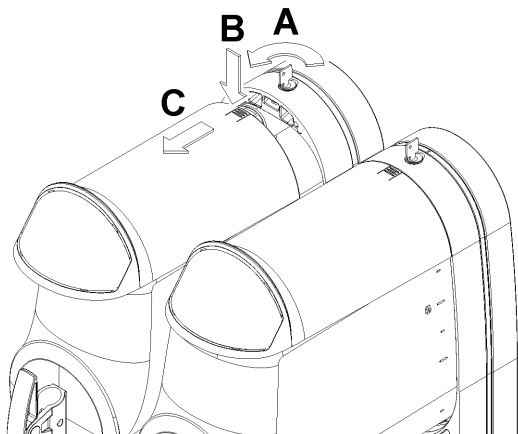

figure 9
- 1 To remove the lid of the container, press the top button and slide the lid towards the front of the container. If there is a safety lock for the lid, turn the key in an anti-clockwise direction to release the open button (see figure 9).